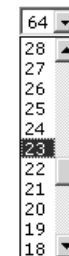

Figure 6-19 — Volume drop box
4. Click the Volume Steps (64 Max) drop box. A drop down scroll box appears (figure 6-19).